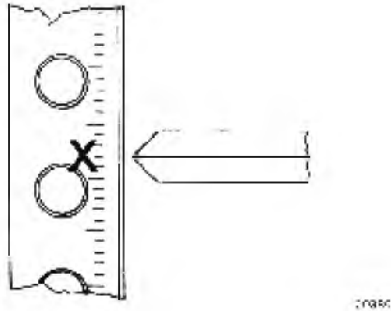

Fig. 15-4 - Limit of Piston Travel Marked On Flywheel
5. Mark the position of the flywheel pointer on the flywheel, Fig. 15-4.